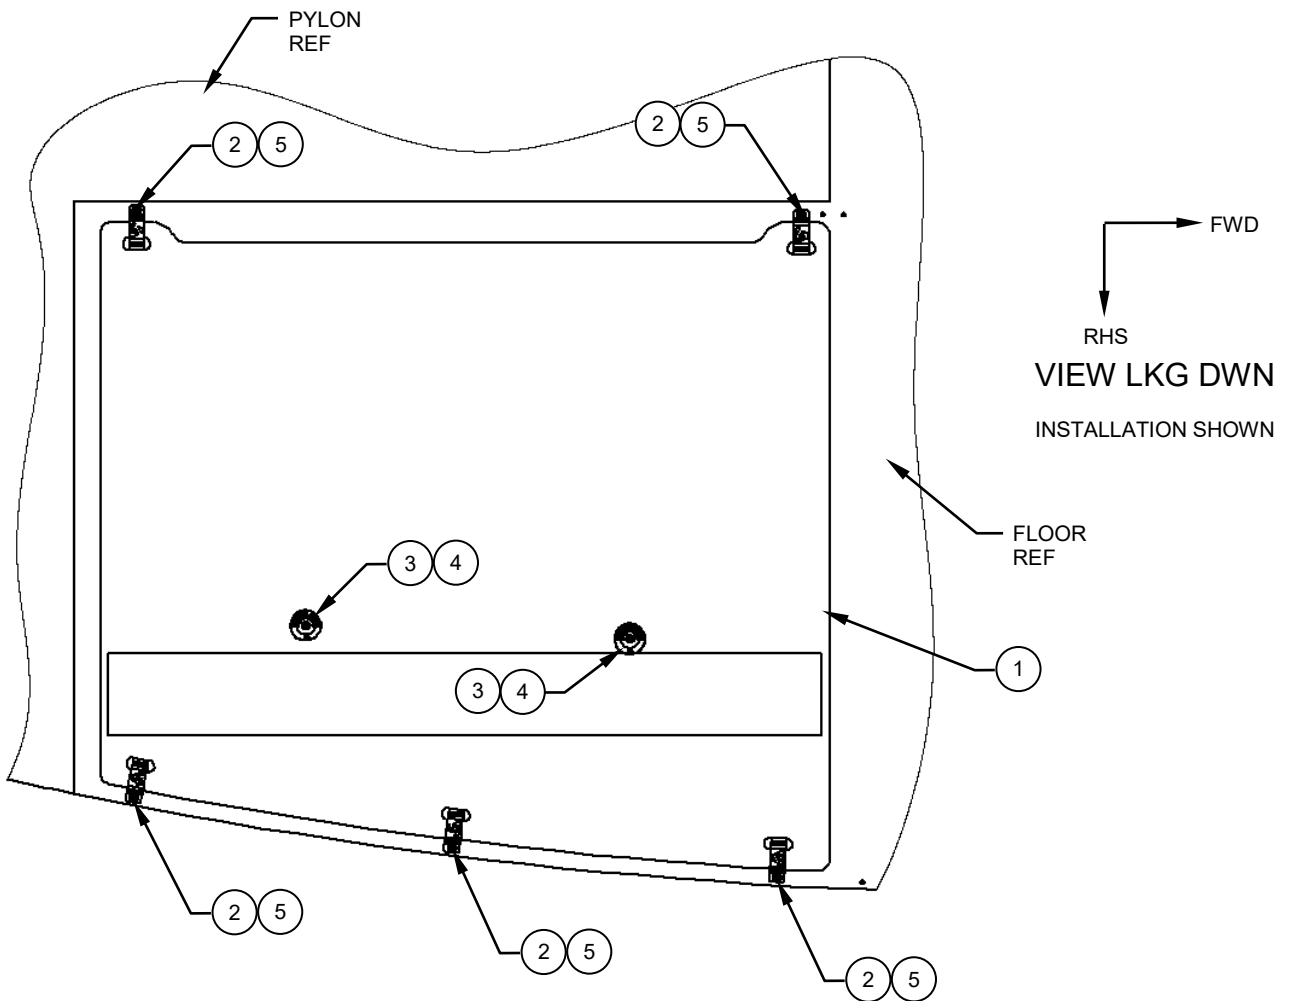

Figure 3
- 4. Install the Clip Detail, Item 5, and mounting hardware in the existing hardware locations. Reference Figure 3 & 4.
- 5. Install the Retainer Detail, Item 3, and mounting hardware in the existing hardware locations. Reference Figure 3 & 5.